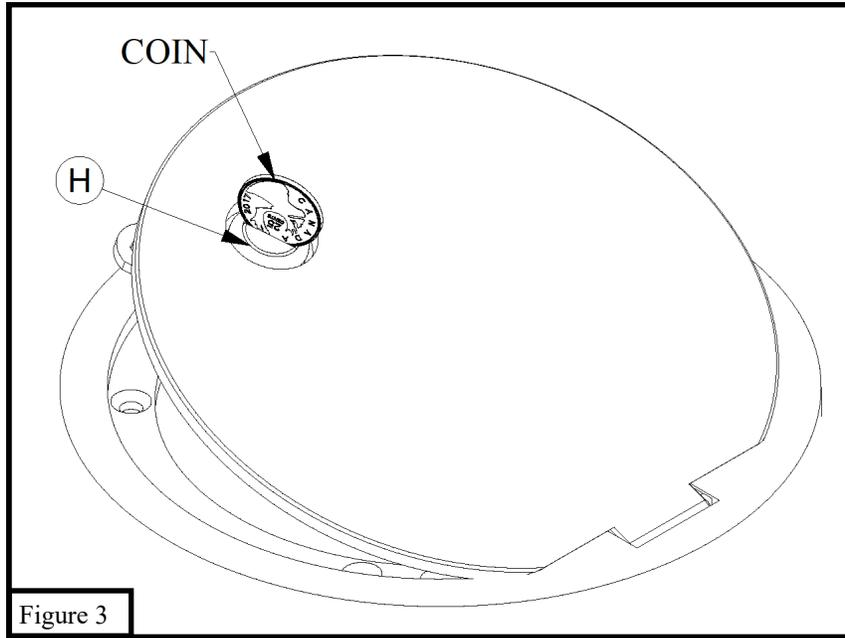

Figure 3
15. Attach *Hinged Floor Plate (B)* to wood floor using the 4 #10 X 1" Wood Screws (E) provided. It is best to drill a small pilot hole into the wood to avoid cracking.
16. After allowing 2 hours for grout to set, remove the 4 #10 X 1" Wood Screws (E) then remove all hardware holding the *Hinged Floor Plate (B)* to the socket assembly. This allows the wood floor to move independent to the socket when humidity changes in the gym
17. Re-install *Hinged Floor Plate (B)* to floor using #10 X 1" Wood Screws (E).
18. If you chose VB23LK, VB26LK, VB27LK or VB23LK-CV socket with lockable floor plate, the *Locking Device (H)* can be operated with a coin or similar flat object. See Fig 3.